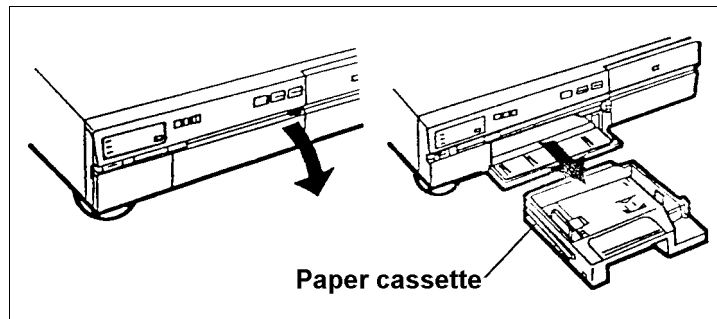

Figure 6-12. Removing the Paper Cassette
1. Open the cassette door and remove the paper cassette (Figure 6-12).